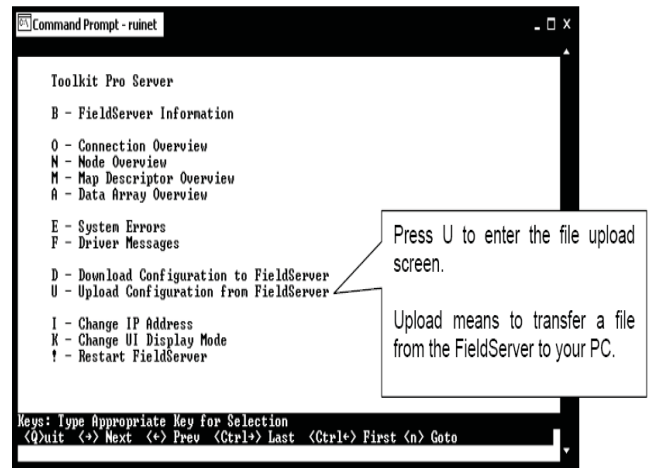
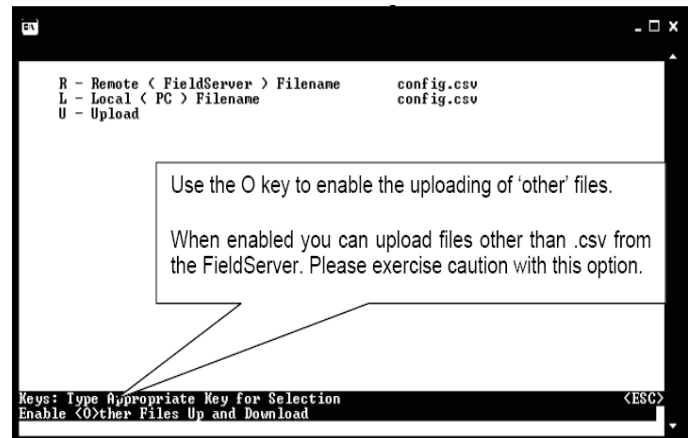

Figure 15: RUINET PT-Link Main Menu - Upload
Figure 16: RUINET PT-Link Upload
9.) Type the letter  to upload the Config file (Figure 15), then type  again (Figure 16) for Upload.